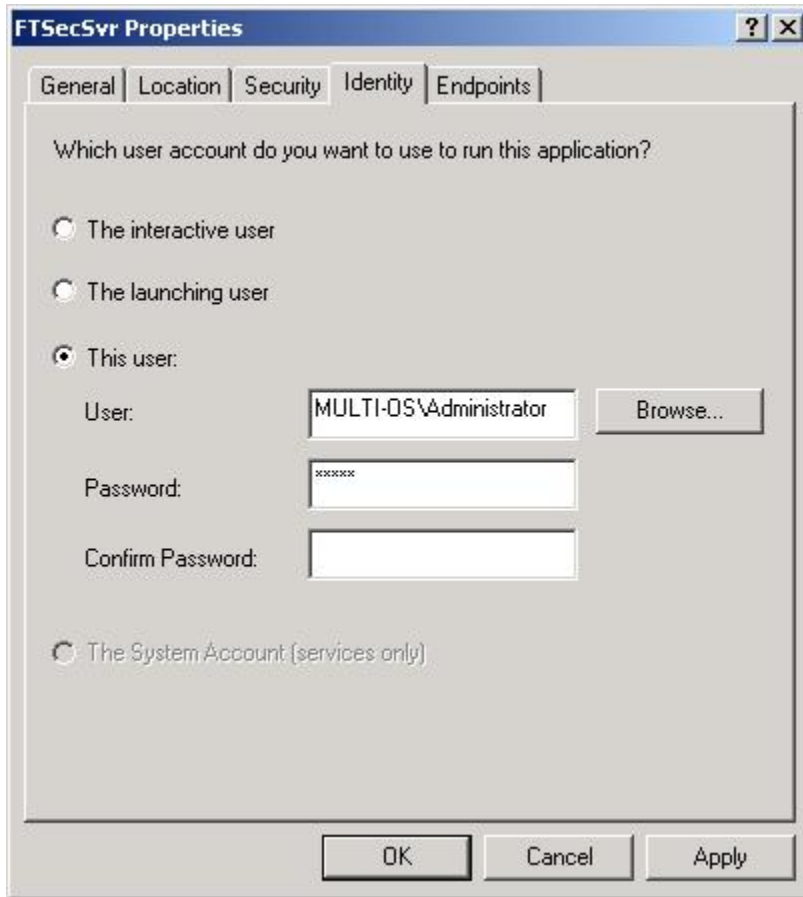

Figure 1.1k
5. Choose the Identity tab and click the "this user" radio button. (See Figure 1.1k below)